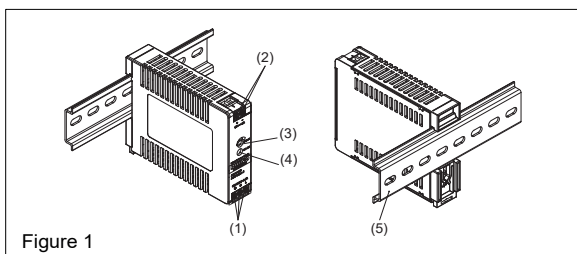
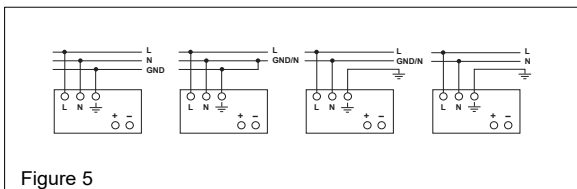

Figure 1
Figure 5
2. Device description (Fig. 1)
5.1. Input connection (Fig. 1, Fig. 5)
Use L, N and GND connections of input terminal connector (see Fig. 1 (1)) to establish the 100-240 VAC connection. Typical connection methods are shown in Figure 5.
5.2. Output connection (Fig. 1 (2))
Use the "+" and "-" screw connections to establish the 5VDC connection. The output provides 5VDC. The output voltage can be adjusted from 5 to 5.5 VDC on the potentiometer. The green LED DC OK displays correct function of the output (Fig. 1 (4)). The device has a short circuit and overload protection and an overvoltage protection limited to 6.325-7.425 VDC.